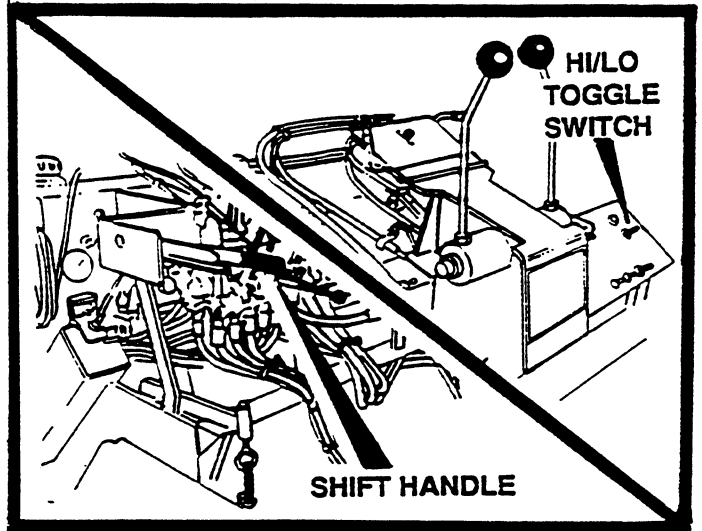

FIGURE 21
- E. Always pave in low range. See Figure 21.
2. Figure 21 shows two methods of shifting the paver from HI to LOW gear. High and Low gear cable is used with the two speed transmission. Push down to low gear, pull up to high gear. High and Low toggle, is a toggle switch used with the Torque Hub. Pull toggle switch down to low and push up to high gear. When the paver is equipped with torque hub, a high gear indicator light will be on steady, indicating that paver is in high gear. (1000 D only have 1 speed.)